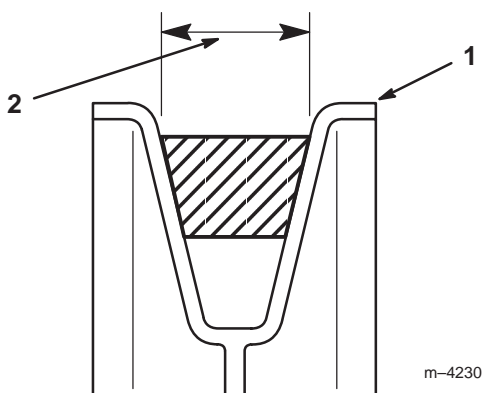

Figure 13
7. Make certain that the wide side of the PTO drive belt is toward the outside diameter of **all (four) pulleys** (Fig. 13).